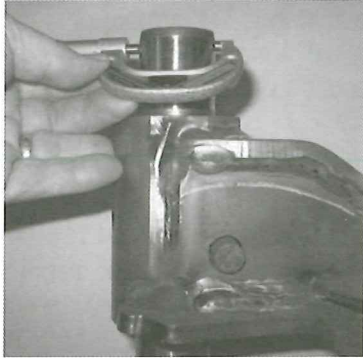

Figure 12.
2. Inspect the kingpin for wear or damage. Use a micrometer and measure the upper and lower kingpin in two locations. Positions must be 90 degrees (perpendicular) from each other. (See Figures 12 through 15) If the kingpin diameter is less than 1.802", kingpin replacement may be necessary. Contact the Hendrickson Customer Service Department at 800-660-2843.